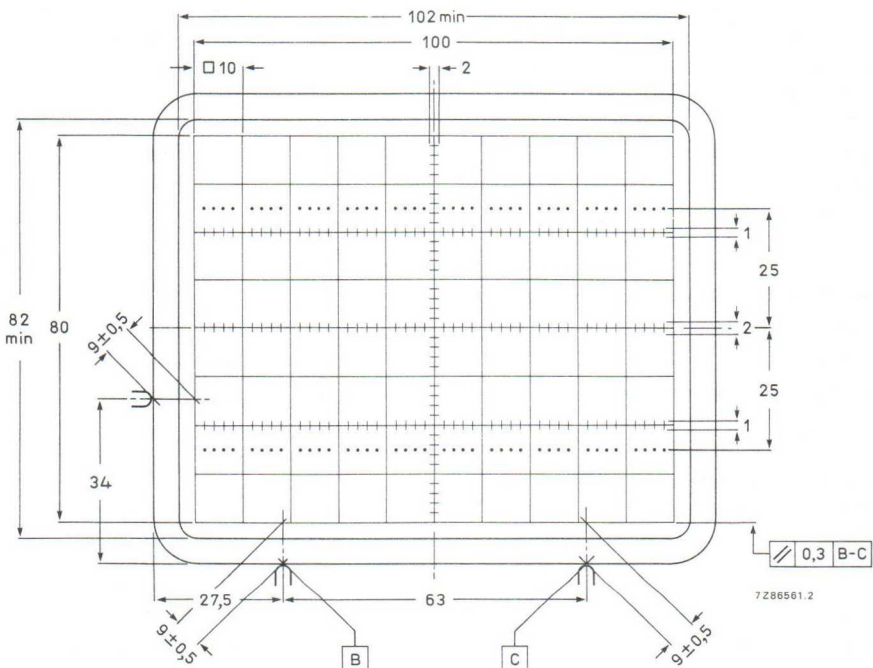

Fig. 4 Front view of tube with internal graticule, type 93.
Internal graticule	type 93; see Fig. 4
The tube can be mounted in any position. It must not be supported by the socket and not by the base region alone. The reference points on adjoining edges of the faceplate (see Fig. 4) enable the tube to be mounted accurately in the front panel, thus providing optimum alignment of the internal graticule.
- (1) Dimensions of faceplate only. The complete assembly of faceplate and cone (frit seal included) will pass through an opening of 122 mm x 102 mm.
- (2) The coil is fixed to the envelope with resin and adhesive tape.
- (3) The length of the connecting leads of the rotation coil is min. 350 mm.
- (4) Reference points on faceplate for graticule alignment (see Fig. 4).
The internal graticule is aligned with the faceplate by using the faceplate reference points, see Fig. 4. See also note 1.
1. As the frit seal is visible through the faceplate, and not necessarily aligned with the internal graticule, application of an external passe-partout with open area of max. 102 mm x 82 mm is recommended. The internal graticule is aligned with the faceplate by using the faceplate reference points (see Fig. 4).